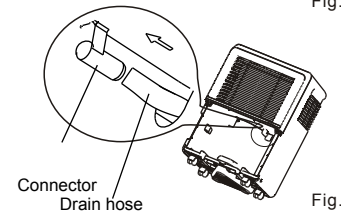

Fig.9
- Remove the plastic cover from the back drain outlet of the unit and set aside and remove bucket, then insert the drain hose through the drain outlet of the unit and securely press it into the connector on the front of the unit.(See.Fig.9)